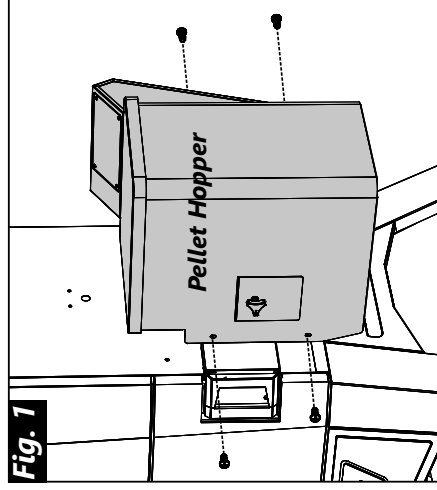

Fig. 1
6. Remove four screws holding pellet hopper to auger housing and remove hopper. Reference **Fig. 1** below. **Tip:** If connections to controller are limiting space, remove controller and disconnect connections to gain more access. Reference Controller Access instructions. Tie a piece of string to plugs at this step. This will make connections easier in future steps.